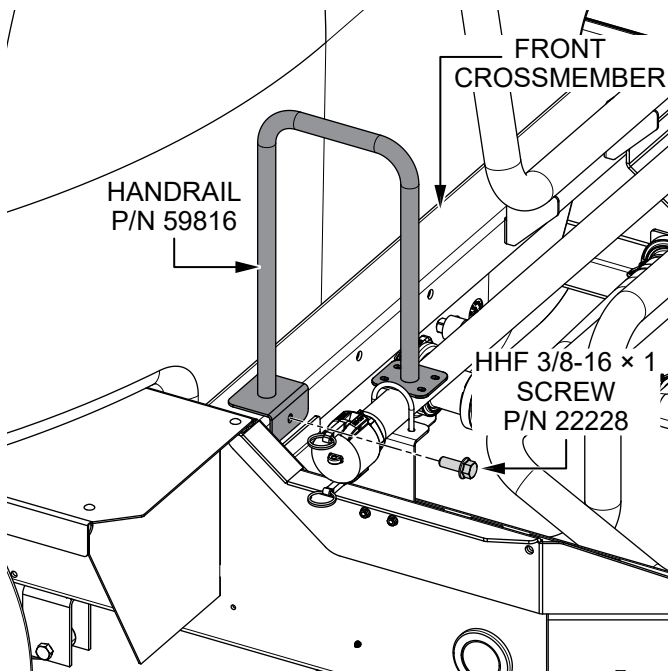

Figure 2. Secure Handrail To Crossmember
1. Secure the **handrail (P/N 59816)** to the **front crossmember** of the trailer using the **HHF 3/8-16 × 1 screw (P/N 22228)** as shown in Figure 2.